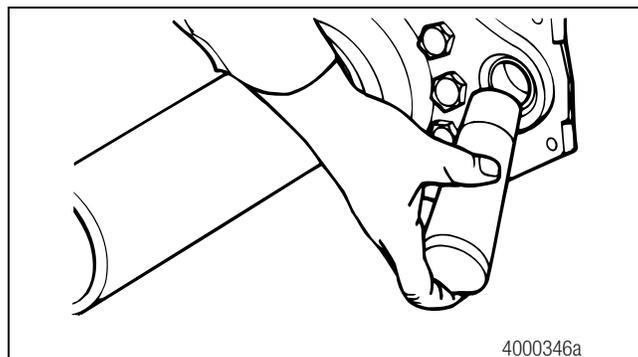
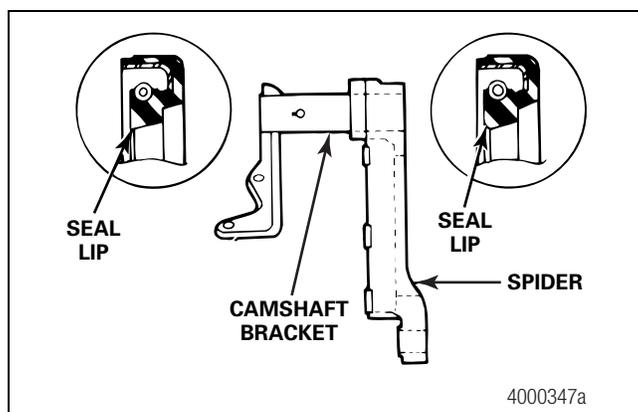

Figure 5.2
Figure 5.3
2. Install new camshaft seals into the spider and camshaft bracket with a seal driver. Figure 5.2. Install both seals with their lips toward the slack adjuster. Figure 5.3.